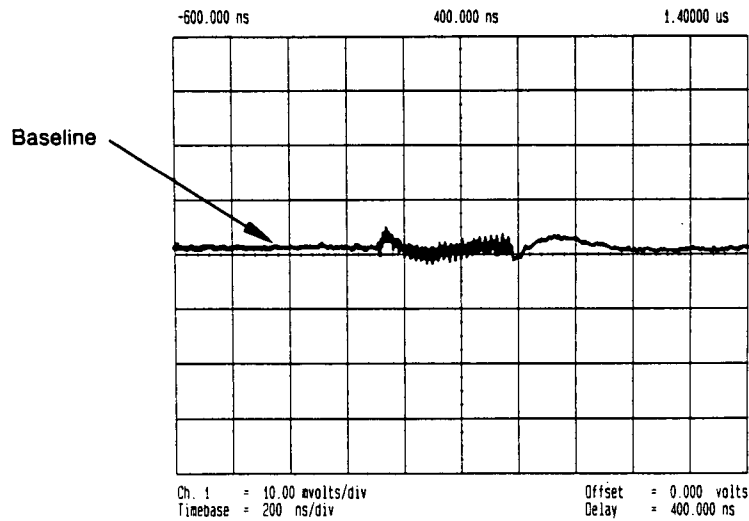

Figure 2-18. Measuring Maximum Voltage from the Baseline Video Feedthrough
16. On the oscilloscope, note the maximum voltage from the baseline (see figure 2-18). Video feedthrough (Vp) = _____ Vp